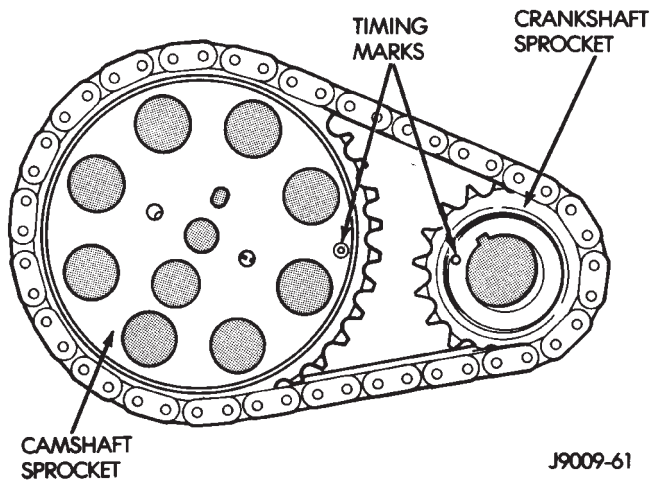
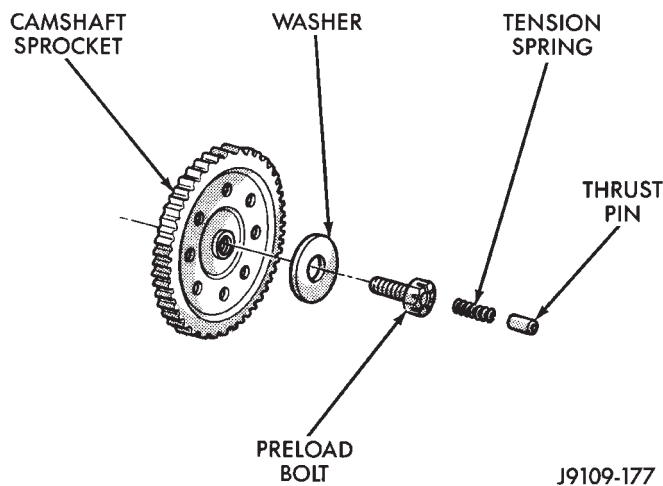

Fig. 6 Crankshaft/Camshaft Alignment—Typical
Fig. 7 Camshaft Sprocket Preload Bolt
(1) Disconnect negative cable from battery.
(2) Remove the fan and shroud.
(3) Remove the serpentine drive belt.
(4) Remove the crankshaft vibration damper.
(5) Remove the timing case cover.
(6) Rotate crankshaft until the "0" timing mark is closest to and on the center line with camshaft sprocket timing mark (Fig. 6).
(7) Remove the oil slinger from the crankshaft.
(8) Remove the tension spring and thrust pin from the preload bolt (Fig. 7). Remove the camshaft sprocket retaining preload bolt and washer.
(9) Remove the crankshaft sprocket, camshaft sprocket and timing chain as an assembly.
Assemble the timing chain, crankshaft sprocket and camshaft sprocket with the timing marks aligned (Fig. 6).
(1) Apply Mopar Silicone Rubber Adhesive Sealant to the keyway in the crankshaft and insert the key. With the key in the keyway on the crankshaft, install the assembly on the crankshaft and camshaft.
(2) Install the camshaft sprocket retaining preload bolt and washer (Fig. 7). Tighten the preload bolt to 108 N·m (80 ft. lbs.) torque.
(6) Lubricate the tension spring, thrust pin and pin bore in the preload bolt with Mopar Engine Oil Supplement, or equivalent. Install the spring and thrust pin in the preload bolt head (Fig. 6).
(7) Install the timing case cover and gasket.
(8) With the key installed in the crankshaft keyway, install the vibration damper, washer and bolt. Lubricate and tighten the bolt to 108 N·m (80 ft. lbs.) torque.
(9) Install the serpentine drive belt and tighten to the specified tension (refer to Group 7, Cooling System for the proper procedure).
(10) Install the fan and hub (or Tempatrol fan) assembly. Install the shroud.
(11) Connect negative cable to battery.